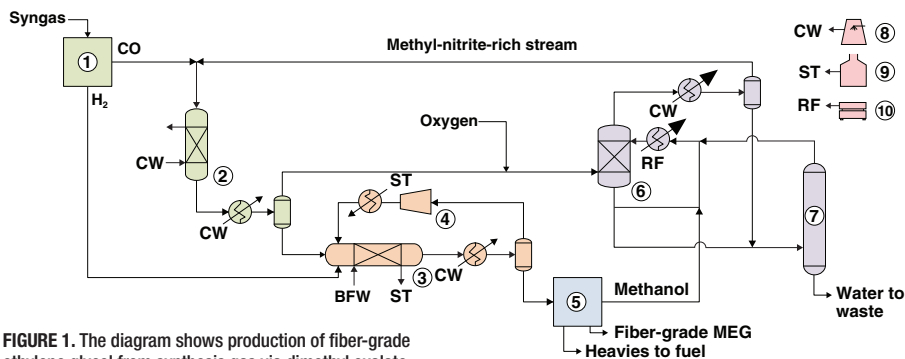

FIGURE 1. The diagram shows production of fiber-grade ethylene glycol from synthesis gas via dimethyl oxalate
In the process described here, ethylene glycol is produced from synthesis gas (syngas), a gaseous mixture of carbon monoxide (CO) and hydrogen (H₂). CO is first converted to dimethyl oxalate (DMO), which is then hydrogenated to form ethylene glycol (Figure 1).